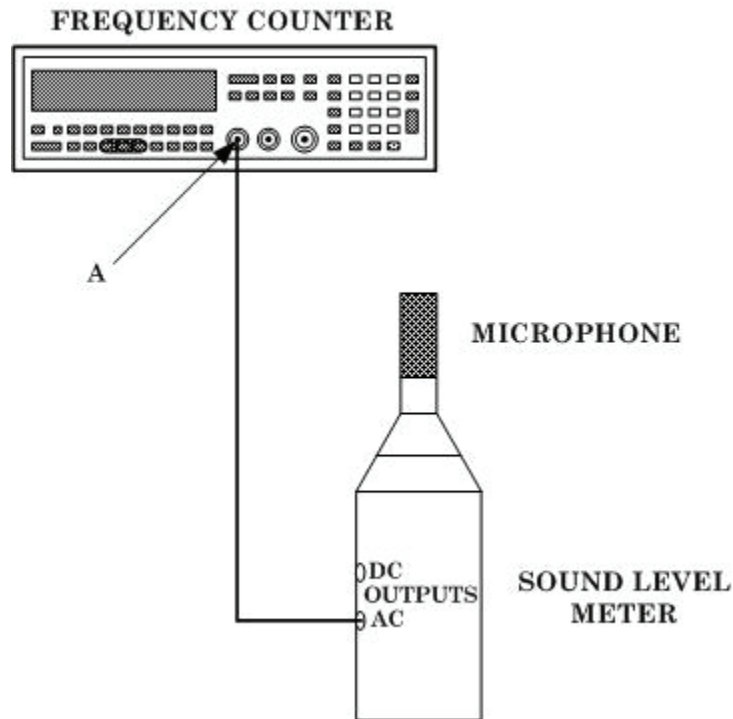

Figure 1. Sound level meter equipment.
a. Connect equipment as shown in figure 1.
b. Position sound level meter switches as listed in (1) through (4) below.
- (1) **WEIGHTING** switch (A or C) to C.
- (2) **dB RANGE** switch to **LOW (30-100 db)**.
- (3) **FAST/SLOW RESPONSE** switch to **SLOW**.
- (4) **RUN/HOLD/RESET** switch to **RUN**.
- b. Strike tuning fork sharply on the edge of wooden (or plastic) bench (or table) and hold approximately $\frac{1}{4}$ inch over microphone (fig. 1) while observing frequency counter indication. Record frequency counter indication.